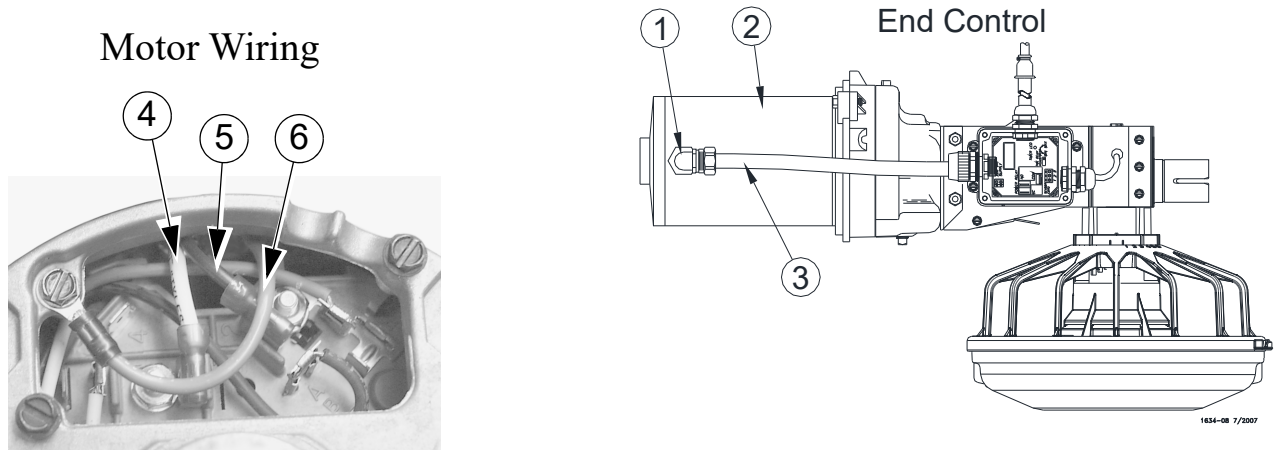

Figure 40. Wiring the Motor
8. Install the Metal Water Tight Connector (**item 1**) in the Feed Line Motor (**item 2**). Cut the Flex Conduit (**item 3**) to length. Slide the wires from the end control through the Flex Conduit (**item 3**). Install the Flex Conduit (**item 3**) in the connectors. Connect the wires to the Feed Line Motor (**item 2**), see **figure 40**.